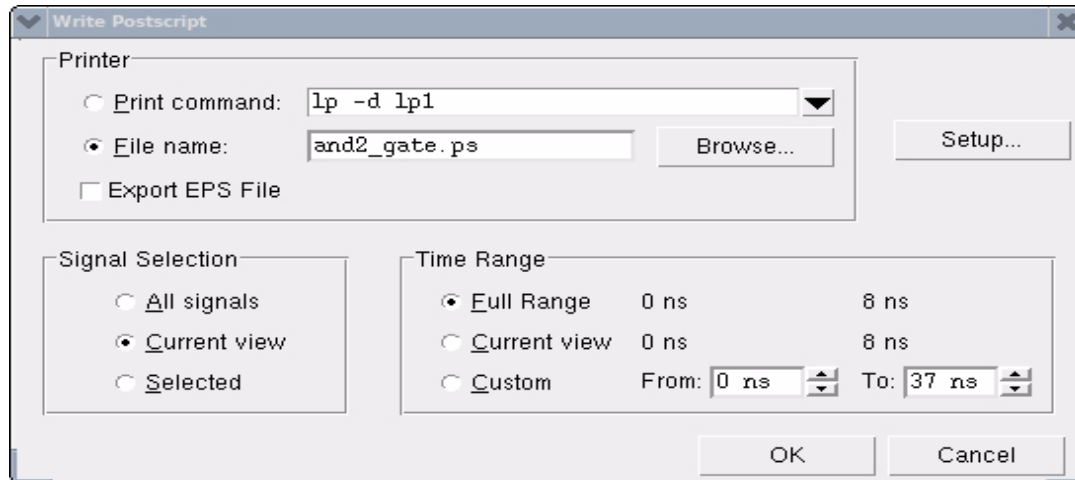

Figure 6: Setting the Print options.
(6) To obtain a printout of the Wave window, select File -> Print Postscript. In the Write Postscript window, specify whether to print to a printer or to print to a file. One can also specify the time range to print. Select OK to generate the file. Refer to Figure 6 for the details of setting the various print options.